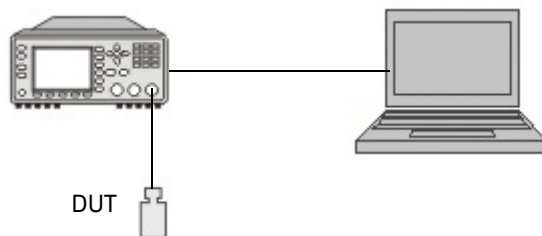

Figure 1-7 Zero set performance verification equipment setup
- 1 Connect the DUT (E-Series E4412A or E4413A power sensor) to the power meter as shown in Figure 1-7.